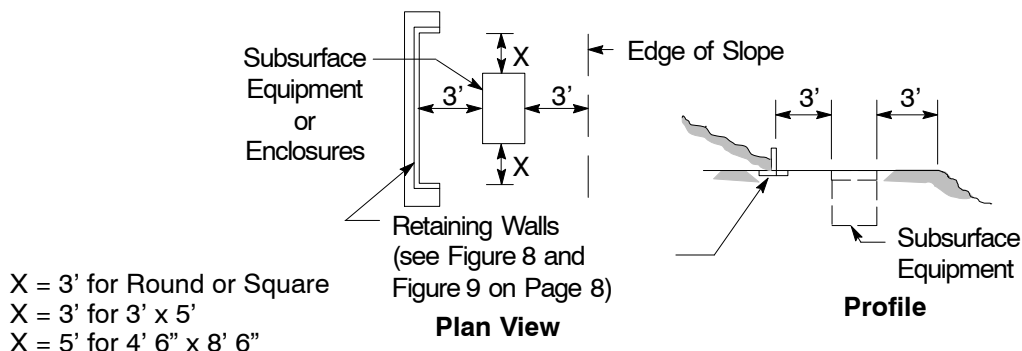
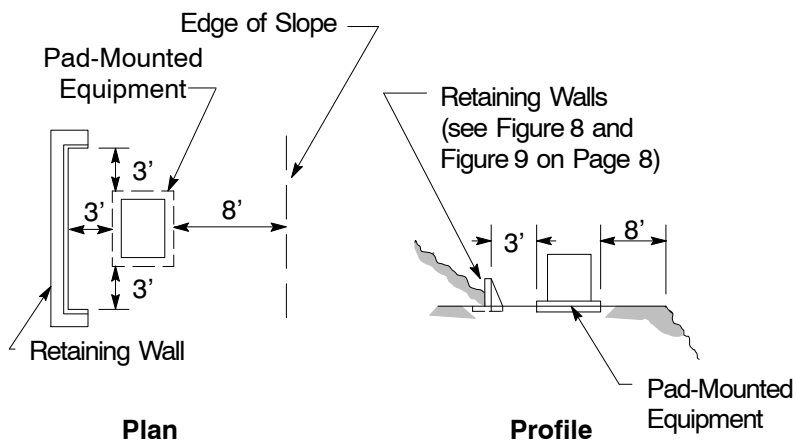
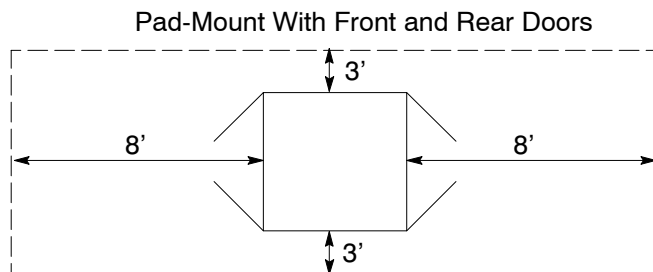

Figure 3
Figure 4
Figure 5
8. Subsurface enclosures and equipment (see Table 2 and Figure 3 on Page 5): Sufficient clearance to remove covers, operate with hot sticks, replace equipment and cable, etc., is required. Field conditions and the specific equipment may allow some of the clearances to be reduced.
9. Pad-Mounted Equipment (see Figure 4 and Figure 5 on Page 5).
15. Retaining walls are required when PG&E determines that it is necessary to protect equipment or enclosures against landslides, drainage wash, drifting sands, etc. The applicant is responsible for the installation and maintenance of the retaining walls and any associated safety rail. The retaining wall will be designed to provide a barrier of sufficient strength and suitable construction to provide adequate protection and working space around the enclosure or equipment. Typical examples of retaining wall placement are shown in Figure 3 and Figure 4 on Page 5 of this document.